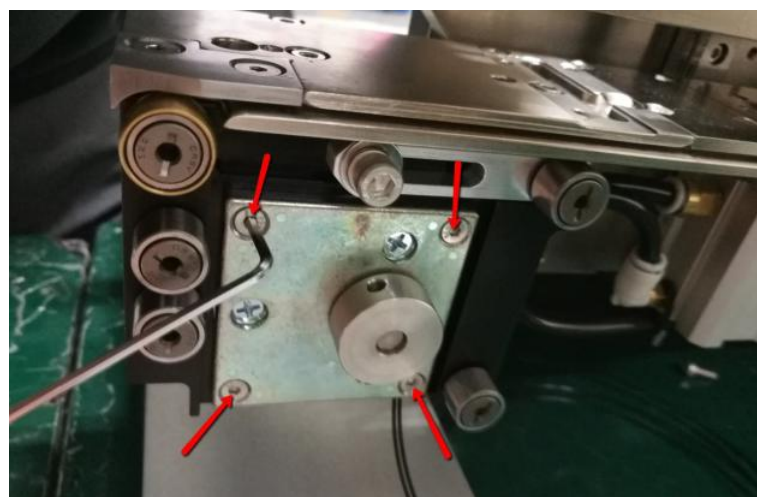

Figure 5 Conveyor Motor Removal
7. Remove 4 x screws (M3 x 10) & Conveyor Motor as shown in Figure 5.